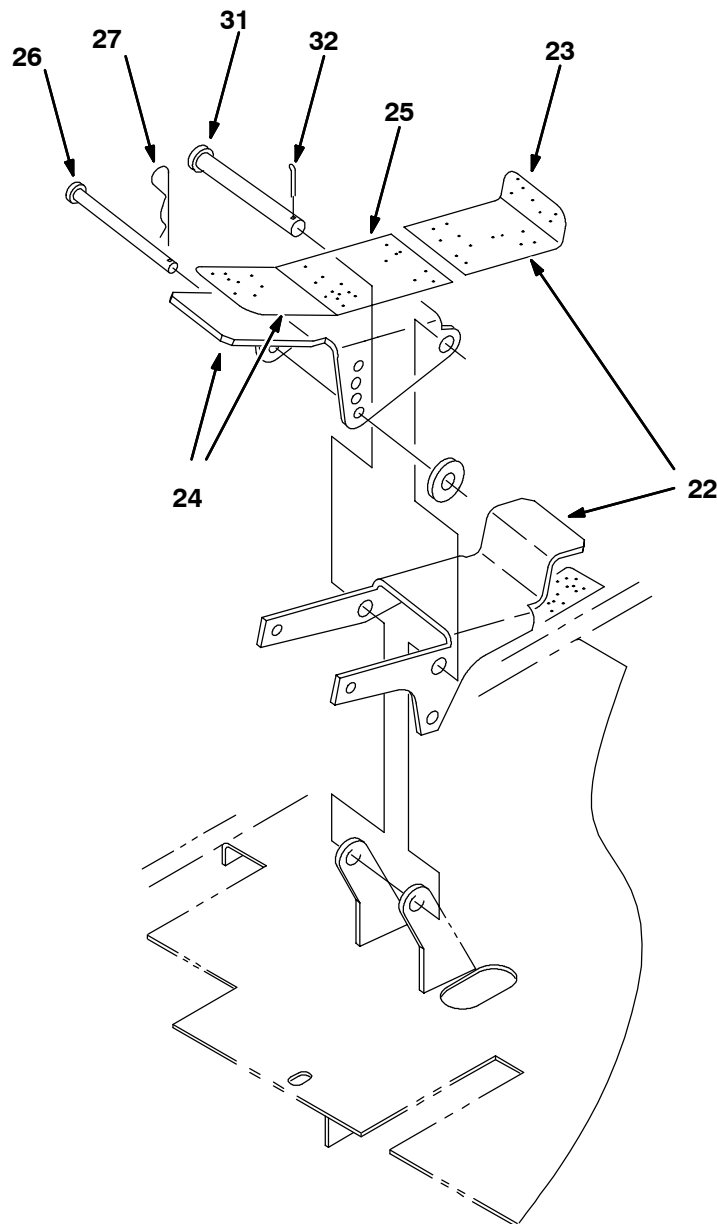

FIG. 2 - New Directional Pedal Installation
(Refer to FIG. 2)
3. Position upper pedal 72131 (24) in place on top of lower pedal 72130 (22) to create one pedal. Secure pedal (both pieces) to machine with clevis pin 59668 (31). Install cotter pin 08182 (32) in the end of clevis pin 59668 (31). (Refer to FIG. 2)
4. Position directional pedal at preferred angle of operation, and secure in place with clevis pin 59672 (26) and cotter pin 97163 (27). (Refer to FIG. 2)